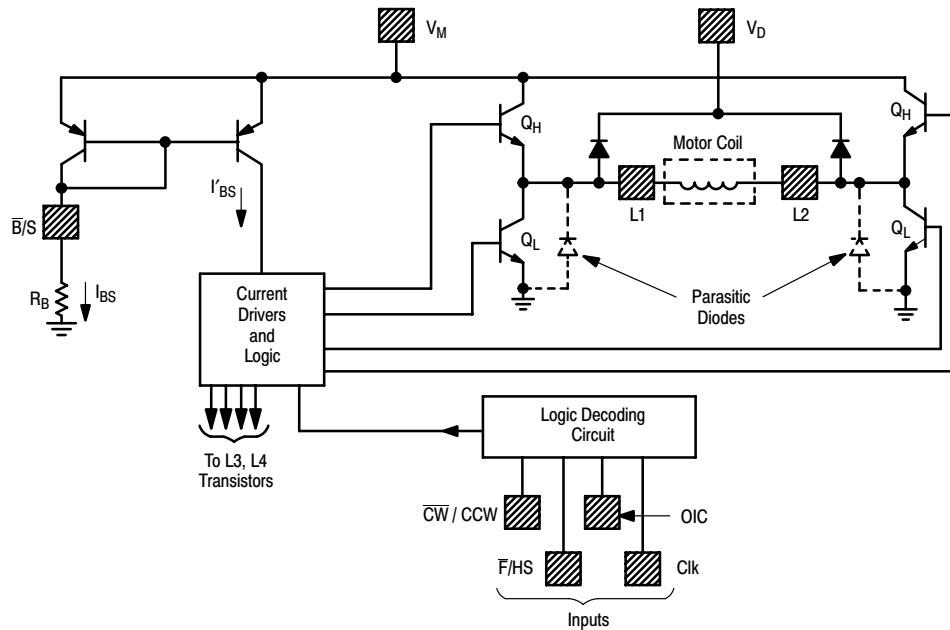
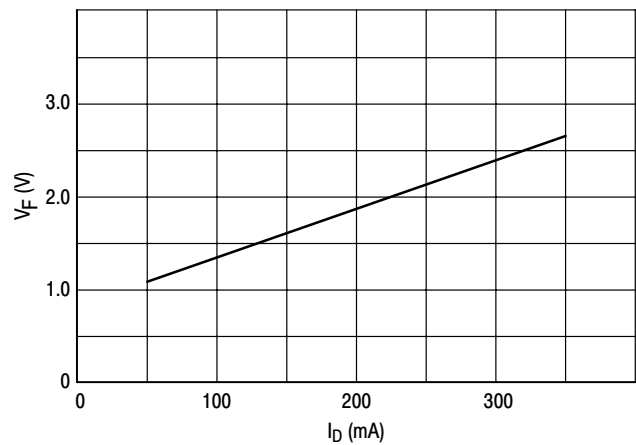
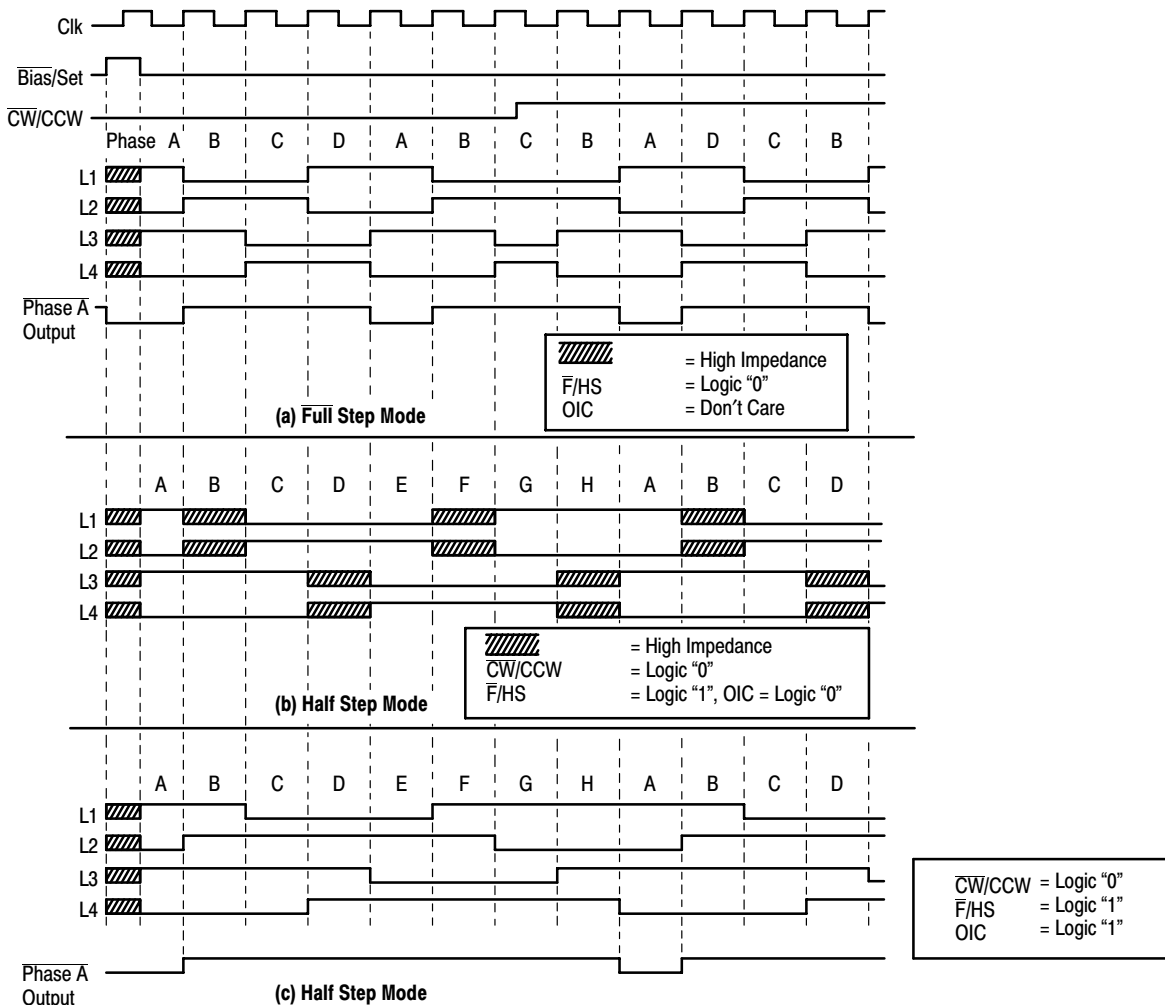

Figure 5. Output Stages
Figure 6. Clamp Diode Characteristics
Figure 7. Output Sequence
| 11 | 9 | $\overline{\text{Full/Half Step}}$ | $\overline{\text{F/HS}}$ | When low (Logic "0"), each clock input pulse will cause the motor to rotate one full step. When high, each clock pulse will cause the motor to rotate one-half step. See Figure 7 for sequence. |
| 12 | 10 | $\overline{\text{Clockwise/Counter-clockwise}}$ | $\overline{\text{CW/CCW}}$ | This input allows reversing the rotation of the motor. See Figure 7 for sequence. |
| 10 | 8 | Output Impedance Control | OIC | This input is relevant only in the half step mode (Pin 9 > 2.0 V). When low (Logic "0"), the two driver outputs of the non-energized coil will be in a high impedance condition. When high the same driver outputs will be at a low impedance referenced to V_M . See Figure 7. |
The outputs (L1-L4) are high current outputs (see Figure 5), which when connected to a two-phase motor, provide two full-bridge configurations (L3 and L4 are not shown in Figure 5). The polarities applied to the motor coils depend on which transistor (Q_H or Q_L) of each output is on, which in turn depends on the inputs and the decoding circuitry.
The maximum sink current available at the outputs is a function of the resistor connected between Pin 6 and ground (see section on \overline{Bias}/Set operation). Whenever the outputs are to be in a high impedance state, both transistors (Q_H and Q_L of Figure 5) of each output are off.
This pin allows for provision of a current path for the motor coil current during switching, in order to suppress back-EMF voltage spikes. V_D is normally connected to V_M (Pin 16) through a diode (zener or regular), a resistor, or directly. The peaks instantaneous voltage at the outputs must not exceed V_M by more than 6.0 V. The voltage drop across the internal clamping diodes must be included in this portion of the design (see Figure 6). Note the parasitic diodes (Figure 5) across each Q_L of each output provide for a complete circuit path for the switched current.
When this input is at a Logic “0” (<0.8 V), the outputs change a full step with each clock cycle, with the sequence direction depending on the $\overline{CW/CCW}$ input. There are four steps ($\overline{\text{Phase A}}, \overline{\text{B}}, \overline{\text{C}}, \overline{\text{D}}$) for each complete cycle of the sequencing logic. Current flows through both motor coils during each step, as shown in Figure 7.
When taken to a Logic “1” (>2.0 V), the outputs change a half step with each clock cycle, with the sequence direction depending on the $\overline{CW/CCW}$ input. Eight steps ($\overline{\text{Phase A}}$ to $\overline{\text{H}}$) result for each complete cycle of the sequencing logic. $\overline{\text{Phase A}}, \overline{\text{C}}, \overline{\text{E}}$ and $\overline{\text{G}}$ correspond (in polarity) to $\overline{\text{Phase A}}, \overline{\text{B}}, \overline{\text{C}},$ and $\overline{\text{D}}$, respectively, of the full step sequence. $\overline{\text{Phase B}}, \overline{\text{D}}, \overline{\text{F}}$ and $\overline{\text{H}}$ provide current to one motor coil, while de-energizing the other coil. The condition of the outputs of the de-energized coil depends on the OIC input, see Figure 7 timing diagram.
(Figure 7) and this input is at a Logic “0” (<0.8 V), the two outputs to the de-energized coil are in a high impedance condition — Q_L and Q_H of both outputs (Figure 5) are off. When this input is at a Logic “1” (>2.0 V), a low impedance output is provided to the de-energized coil as both outputs have Q_H on (Q_L off). To complete the low impedance path requires connecting V_D to V_M as described elsewhere in this data sheet.
a) The maximum output sink current is determined by the base drive current supplied to the lower transistors (Q_{LS} of Figure 5) of each output, which in turn, is a function of I_{BS} . The appropriate value of I_{BS} is determined by: